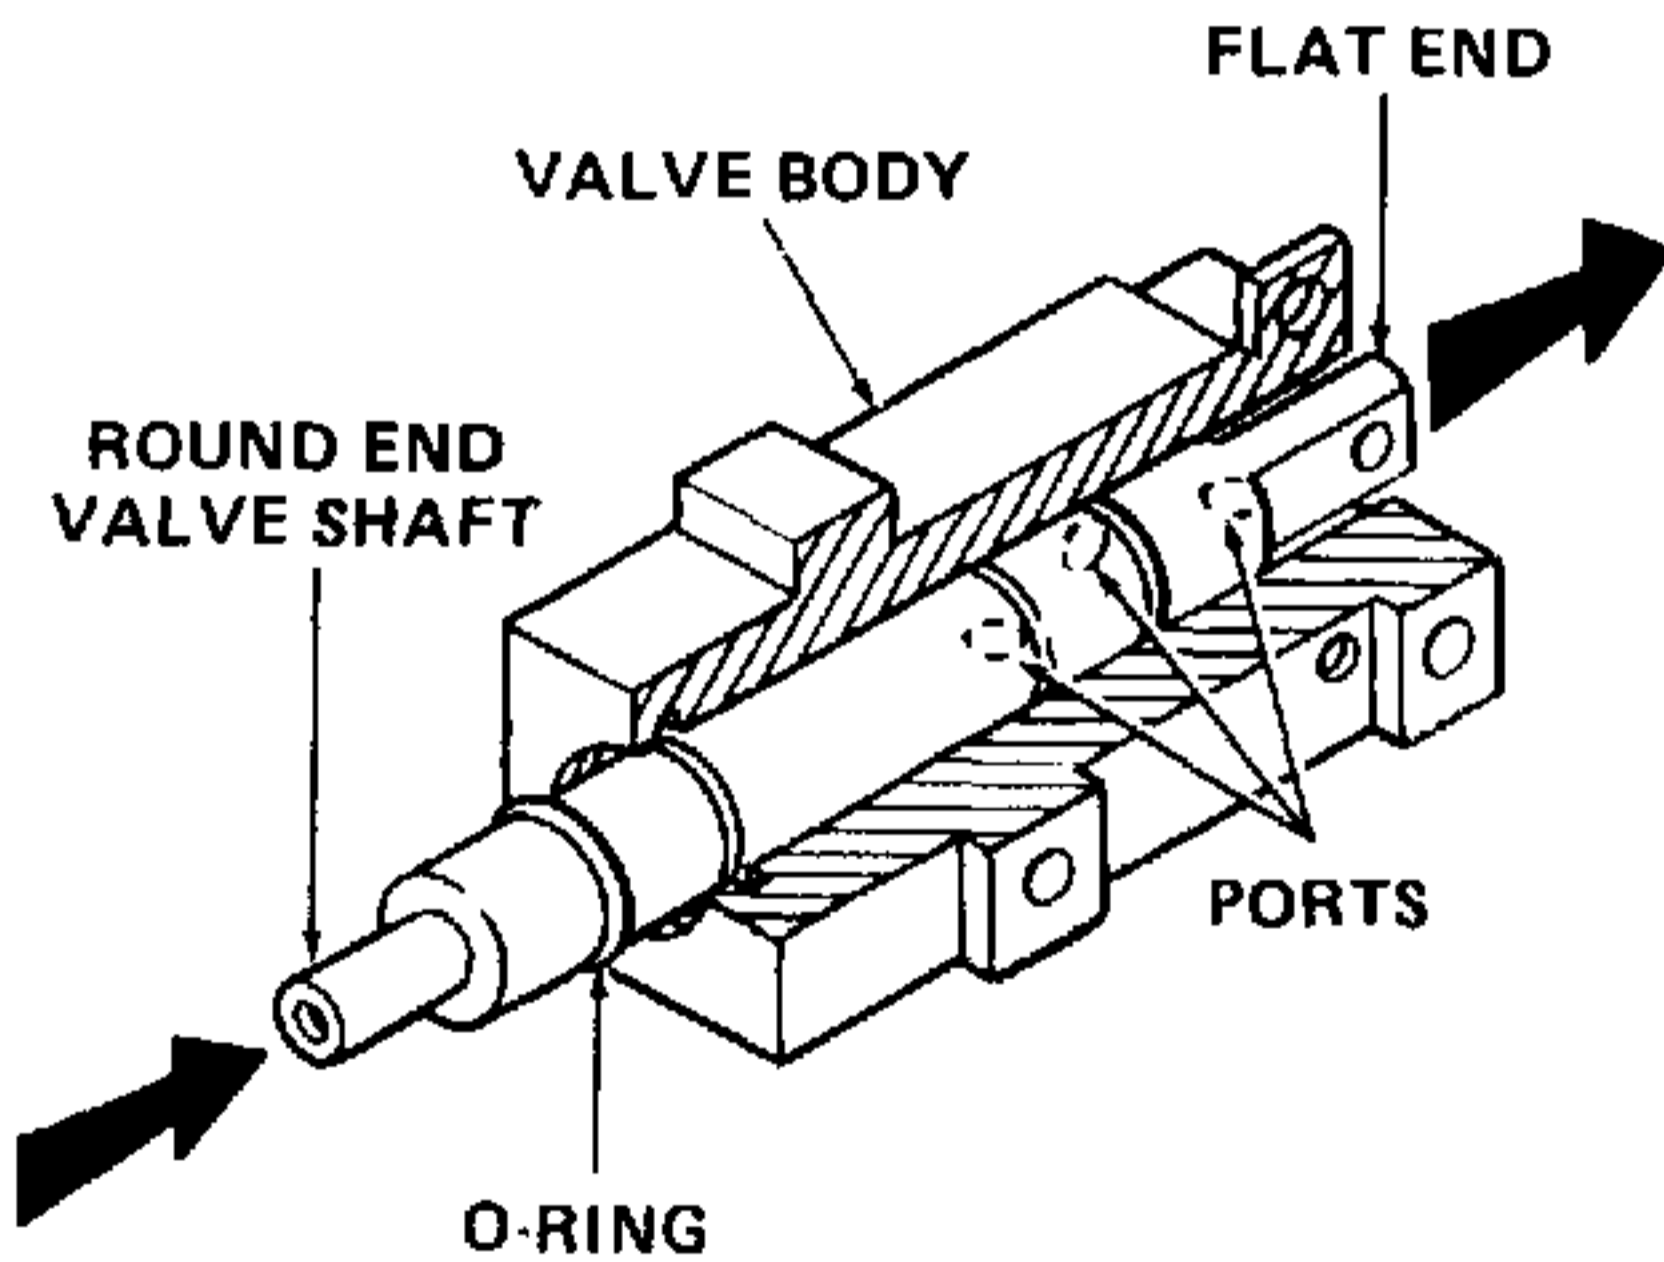

Figure 5-52A. Installing Valve Shaft Into Valve Body.
- b. Place one O-ring (32) over round end of valve shaft and into O-ring groove. Place valve shaft, flat end first, halfway into valve body. Refer to Figure 5-52A.